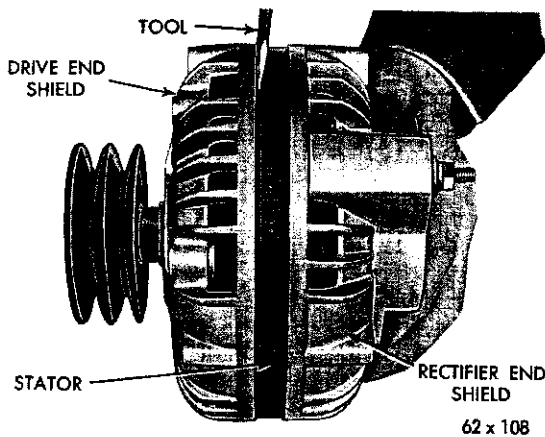

Fig. 57—Separating Drive End Shield from Stator
(3) Remove the through bolts and pry between the stator and drive end shield with the blade of a screwdriver (Fig. 57). Carefully separate the drive end shield, pulley and rotor assembly away from the stator and the rectifier shield assembly.